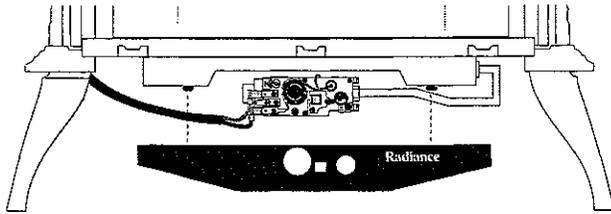

Fig. 17. Remove the valve cover plate.
1. **Remove the Control Valve Coverplate.** Loosen, but do not remove, the two Phillips-head retainer screws behind the coverplate, under the firebox. Slip the coverplate toward yourself to remove it from the stove. See Fig. 17.